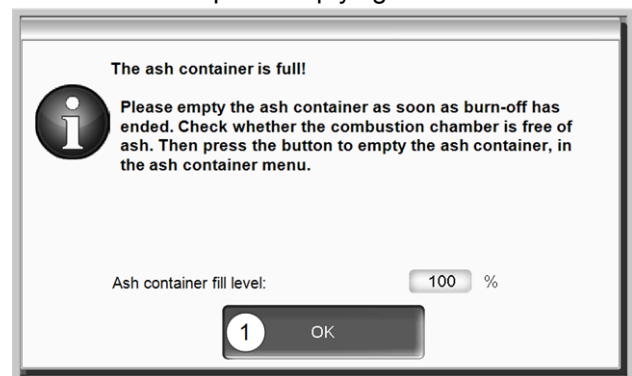

Fig. 2-52
- ▶ Confirm the information message on the display with OK **1** > Fig. 2-52